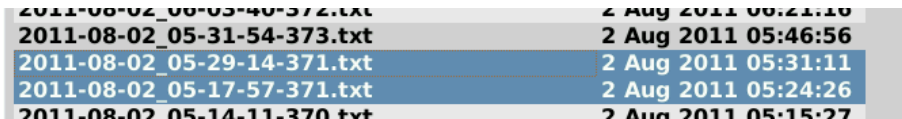

Figure 24: Extract from the HISTORY dialog field. The selected files are highlighted in blue.
5. Select the files to be copied by clicking on them. The selected files will be highlighted in blue (see *Figure 24*). The file name consists of the combined details of the patient's name (if saved in the dialog field **PATIENT**), the date and the start time of the application (Name\_Year-Month-Day\_Hours-Minutes-Seconds-Milliseconds.txt).